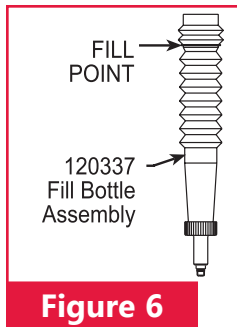

Figure 6
This section documents the “bleed-&-fill” procedure. For component identification, see Figures 6, 7, & 8.
- Add an approved hydraulic fluid to the fill point of the Fill Bottle. (Figure 6)